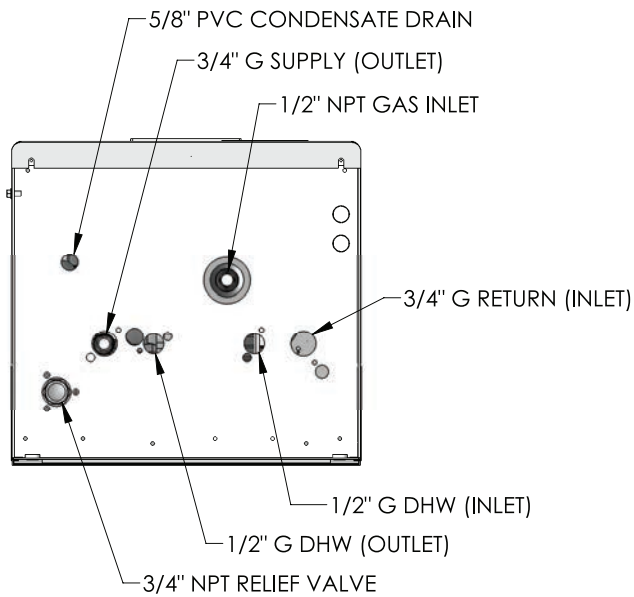

Figure 4.2: Water and Condensate Connection Points
- Pressure/Temperature Gauge:** A combination pressure/temperature gauge is provided with each Series PBC™ boiler to be mounted in the piping from the boiler supply to the system as shown in Figures 4.2 & 4.3. Most local codes require this gauge.
8. *Pressure Relief Valve:* The boiler pressure relief valve is shipped separately for field installation. The valve is to be installed as shown in Figures 4.2 or 4.3. Pipe the discharge of the relief valve to within 12" of the floor and close to a floor drain. Provide piping that is the same size or larger than the relief valve outlet.